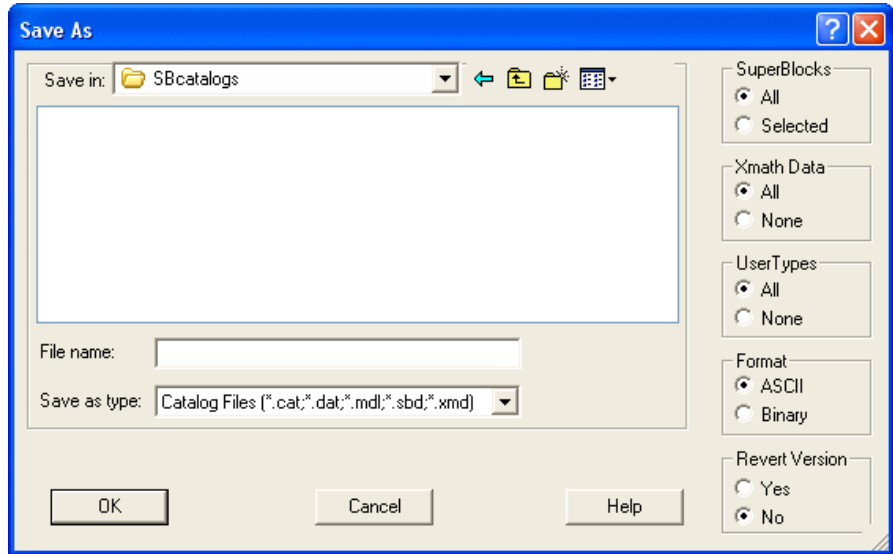

Figure 4-26. Save As Dialog Box
The **Save As** dialog box is displayed. Figure 4-26 shows the **Save As** dialog box as it appears during step 5.
5. Click the **File name** field and type `vibe.cat`, as shown in Figure 4-26.